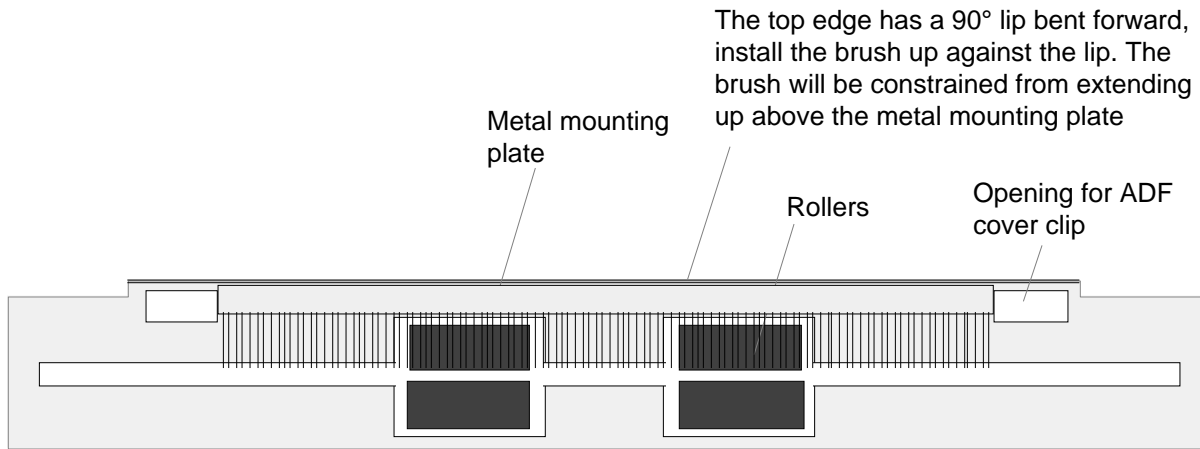

fig. 2
- c) Using the same screws, or adhesive backed brush install the Acordex scanner exit slot brush. See figure 2. The new brush will extend down beyond where the mounting plate begins to angle back towards the rollers. This allows the conductive brushes to discharge the paper as it exits the scanner.